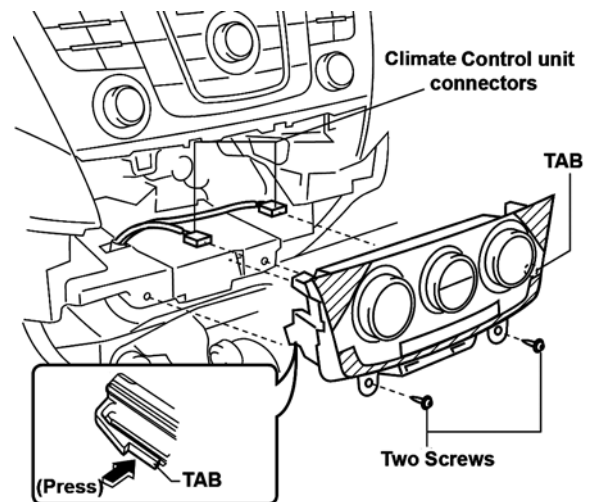

FIGURE 17
1. REMOVE THE TWO SCREWS. (SEE FIGURE 17)
3. DISCONNECT THE TWO CLIMATE CONTROL UNIT CONNECTORS. (SEE FIGURE 17)
4. REMOVE THE CLIMATE CONTROL UNIT. (SEE FIGURE 17)